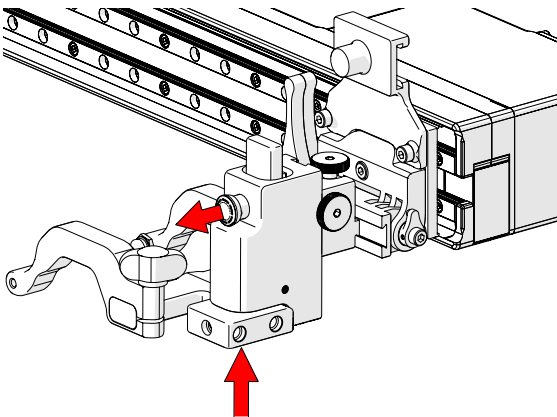
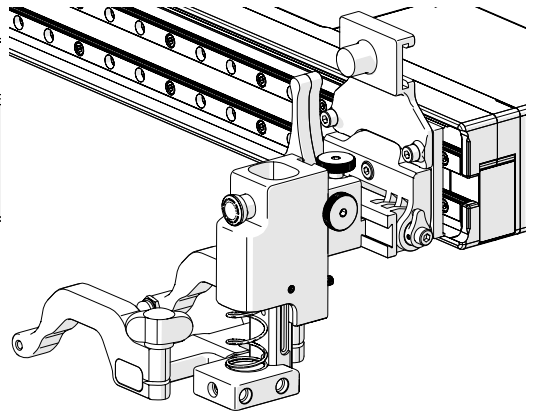

Fig. 132 - Press up and pull latch
Fig. 133 - Lowered toward scan surface
1. Gently lift the heavy duty vertical probe holder and simultaneously pull the latch (Fig. 132). This action will unlock the probe holder. Slowly lower the probe holder towards the scan surface (Fig. 133).